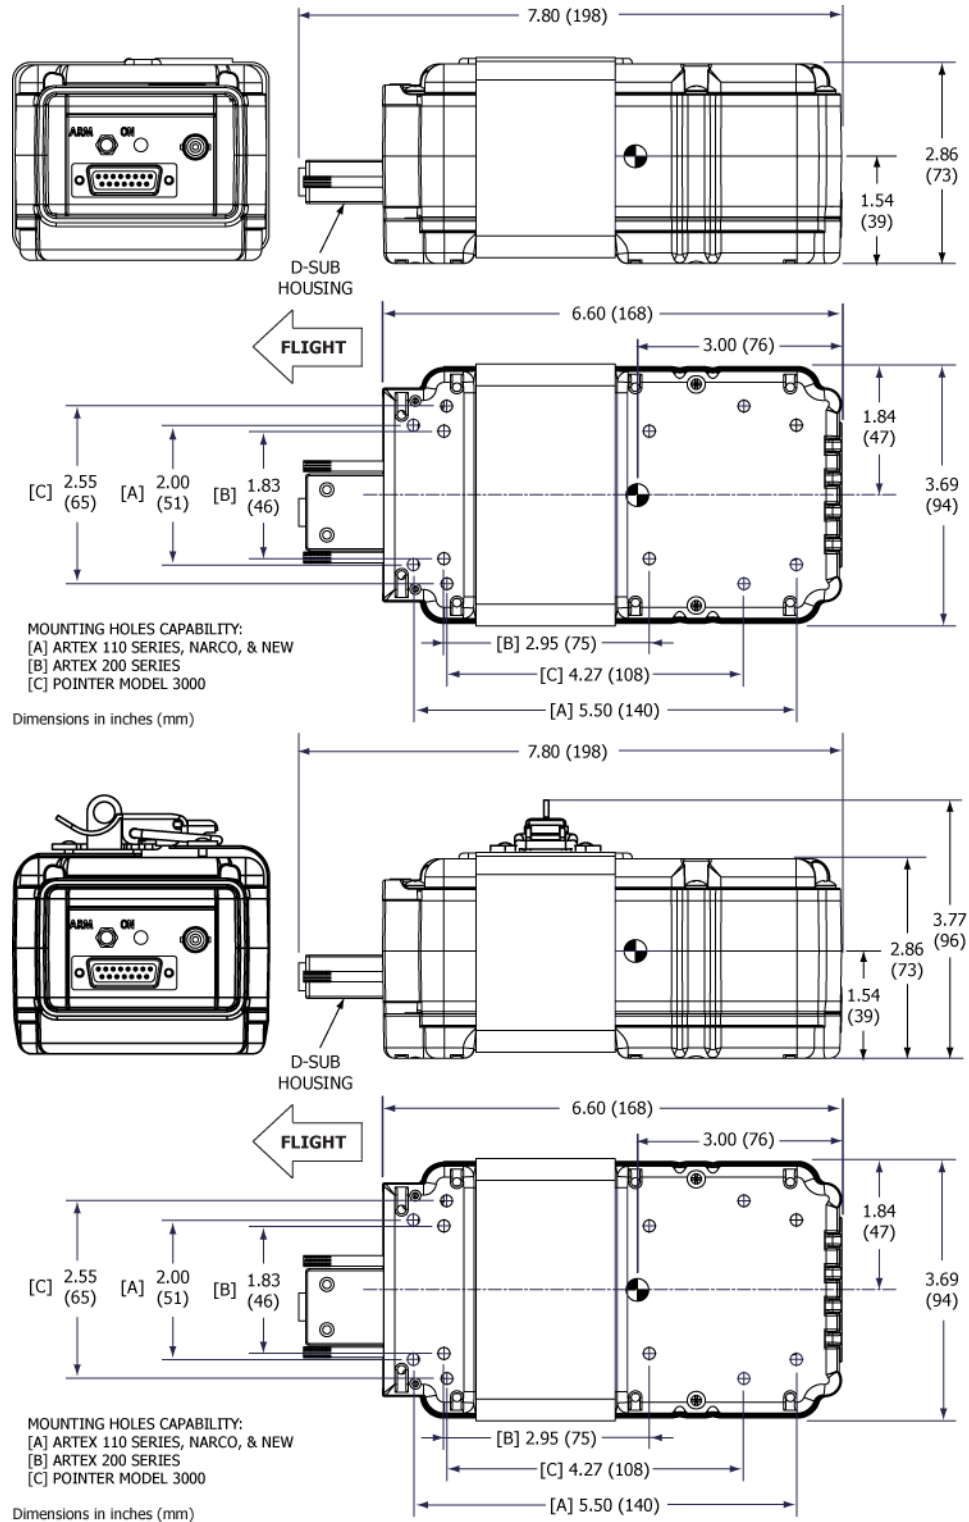
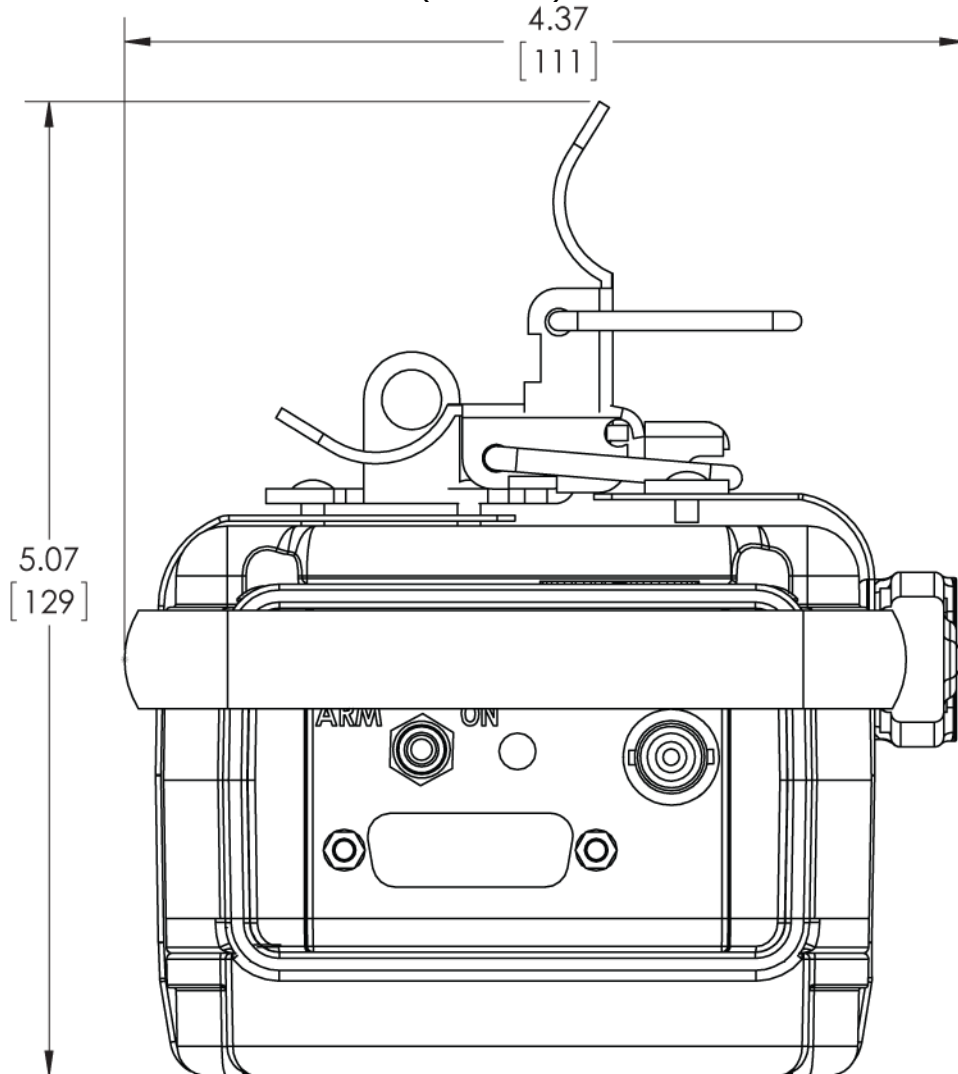

Figure 14 ME406P ELT Outline and Dimensions
Figure 15 ME406P Mounting Tray Minimum Clearance Dimensions
- 1) Select a suitable location for the ELT mounting tray. See Figure 14 ME406P ELT Outline and Dimensions on page 45 and Figure 15 ME406P Mounting Tray Minimum Clearance Dimensions on page 46. Refer to these dimensions when determining mounting location.
- 4) Mark the four holes needed for mounting the tray, using the tray as a pattern. The hole pattern is also illustrated in Figure 14 ME406P ELT Outline and Dimensions on page 45.